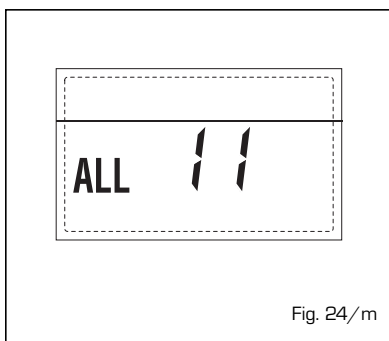

Fig. 24/m
**- CONFIGURATION ANOMALY ALARM 12 (fig. 24/n)**